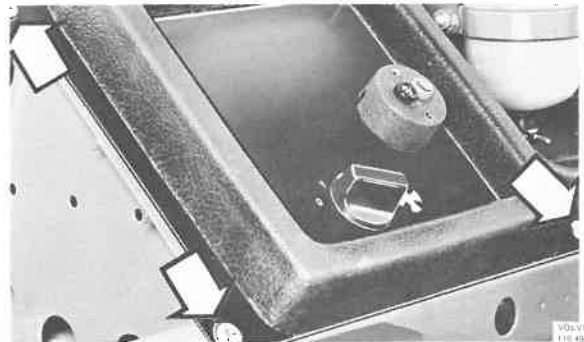

Fig. 36-22. Panel for switch
3. Remove the four screws securing the panel on which the switch is mounted, see Fig. 36-22.